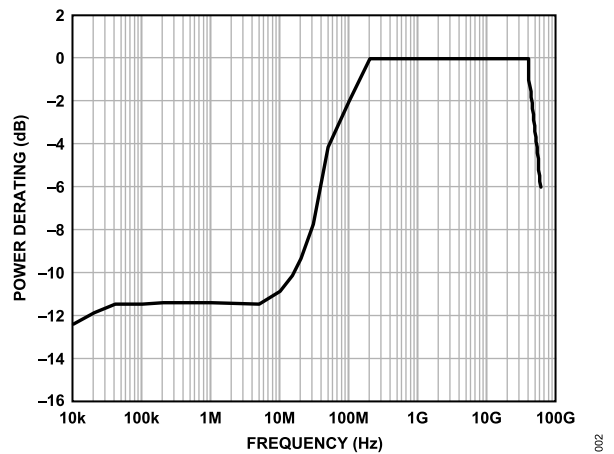
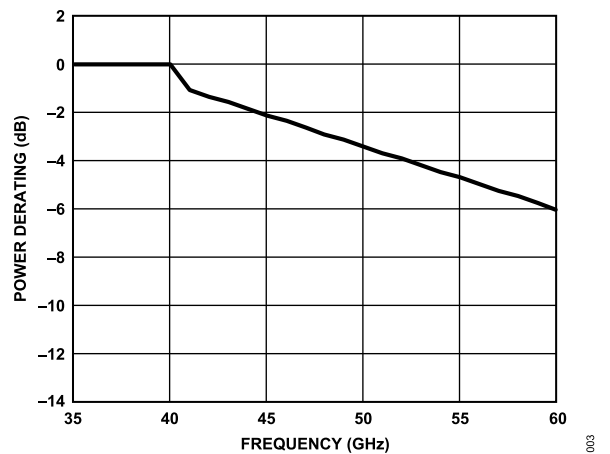

Figure 2. Power Derating vs. Frequency, Low Frequency Detail, $T_{DIE} = 85^{\circ}C$
Figure 3. Power Derating vs. Frequency, High Frequency Detail, $T_{DIE} = 85^{\circ}C$
² For power derating over frequency, see Figure 2 and Figure 3.
- ¹ For power derating over frequency, see Figure 2 and Figure 3. This power derating is applicable for insertion loss path and hot switching power specifications.